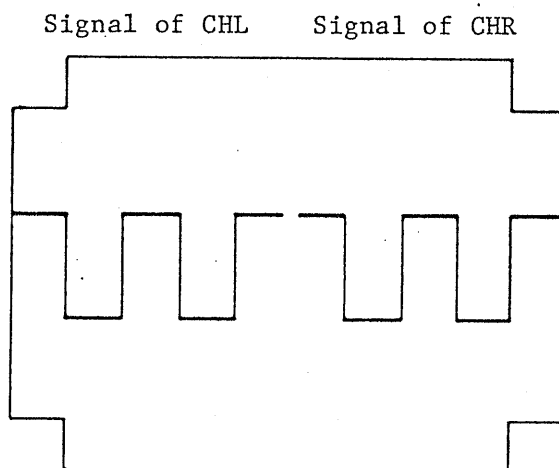

Fig. 7
When in the above state, by changing the MODE switch (9) from the V state to the H state and adjusting the vertical POSITION knobs (8) and (13), the signal waveforms of the CHL and CHR channels can be displayed to the left and to the right, respectively, on the same horizontal line as shown in Fig. 7. This is the horizontal STEREO operation.